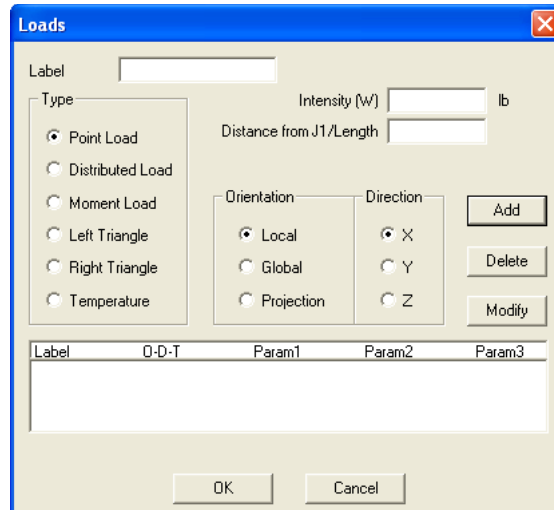

Figure 3-16 Loads dialog box
- From the **Define** menu, select **Loads**. The dialog box Figure 3-16 appears.